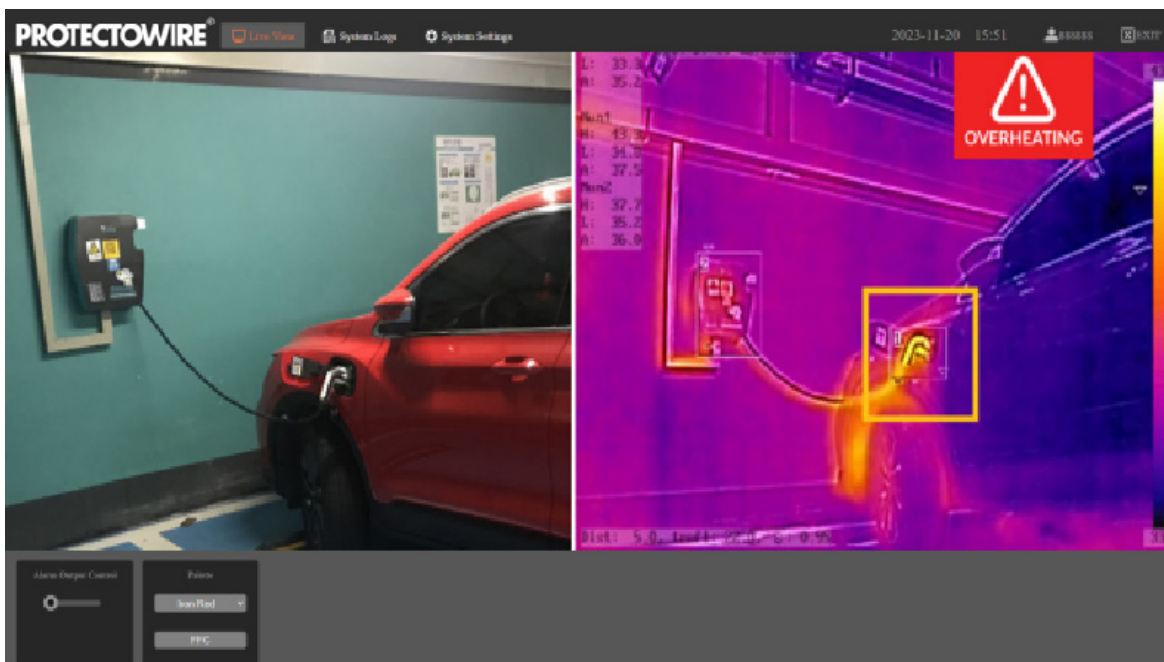

Figure 5-9: Web interface main page
- Step 4: The main page of the web interface is shown in Figure 5-9. This interface can be used to configure the camera settings, preview video streams, and view all logged events.